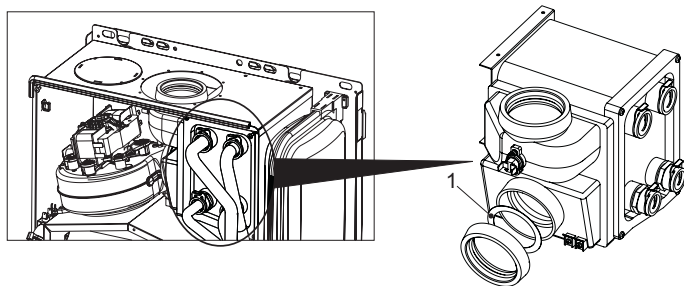

fig. 11
Before inserting the fume exhaust pipe, check the presence of the right baffle (when it is to be used) and that it is correctly positioned. The boilers are fitted standard with the smallest diameter baffle. To replace the baffle (ref. 1 - fig. 11), proceed as indicated in fig. 11.